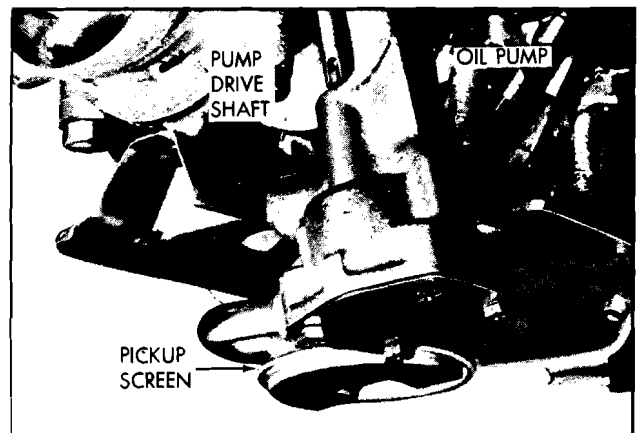

Fig. 6-104 Oil Pump and Oil Pump Drive Shaft
2. Remove oil pump attaching bolts while holding oil pump in place. Carefully lower oil pump away from block with one hand while removing oil pump drive shaft with other hand (Fig. 6-104).